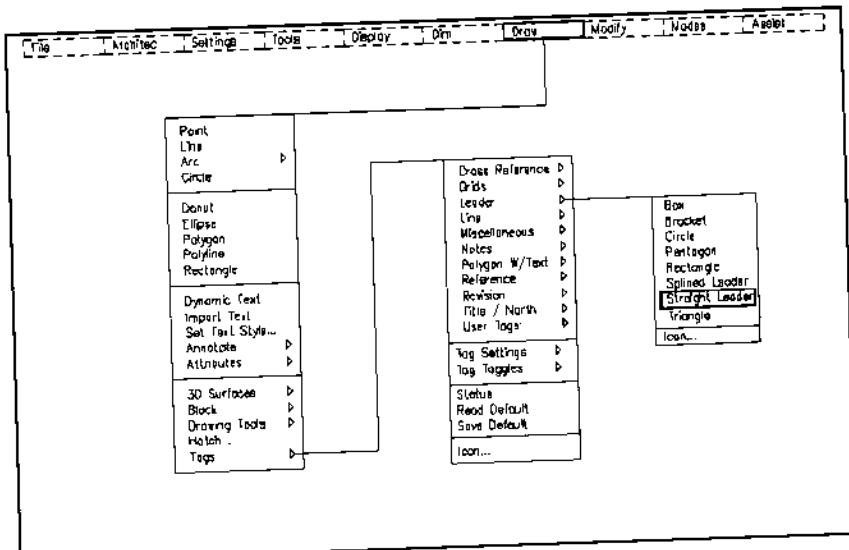

Figure 23.
2. Pick Tags from the Draw pulldown menu, then Leader to display the cascading menu shown in Figure 23.